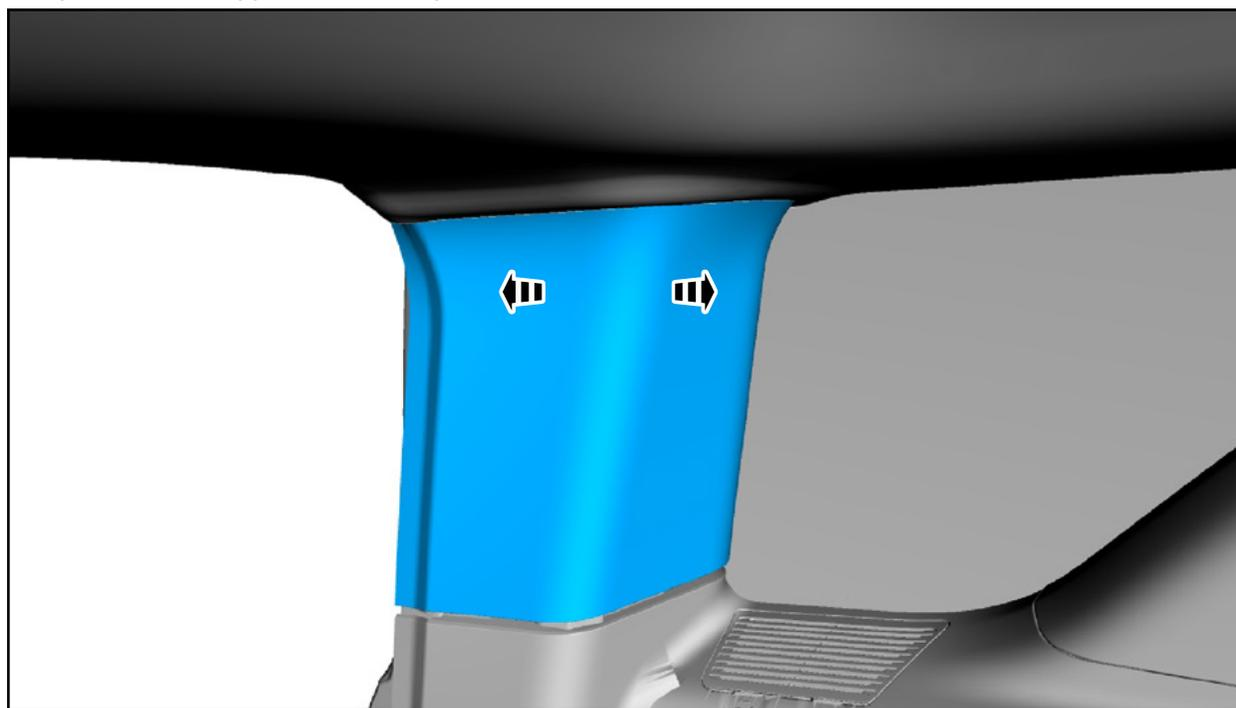

FIGURE 13
13. Remove the LH D-pillar trim panel. See Figure 13.